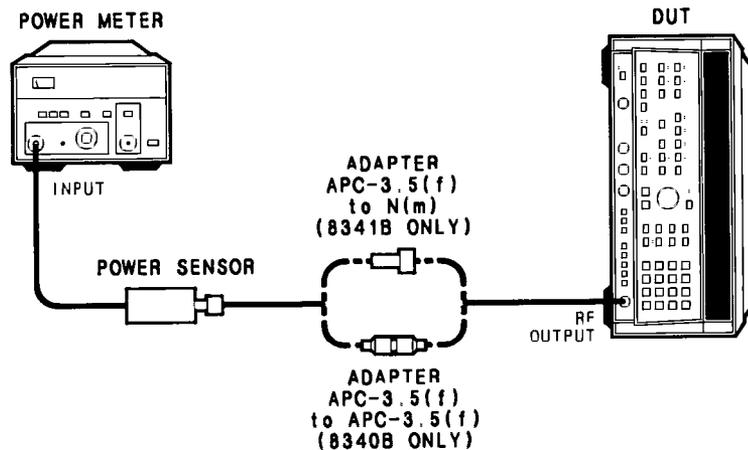

Figure 5-47. ALC Adjustment Test Setup
15. Connect the equipment as shown in Figure 5-47. Calibrate and zero the power meter. Allow one hour warmup time. Connect the power sensor to the DUT's RF output. Press [INSTR PRESET] on the DUT. Press [CW] and enter [4] [.] [5] [GHz]. Press the [RF] key to turn the RF OFF and zero the power meter. To ensure that the power meter is properly zeroed, select "WATT" mode, and press ZERO until the power meter indicates  $\leq 0.02$  on the most sensitive range. Press [RF] to turn the RF ON. Press [PEAK] to turn peaking on. Press [SHIFT] [PWR SWP] to decouple the RF attenuator and ALC. Enter [0] [dBm]. If the display does not indicate ATTEN=0 dB, press STEP keys as necessary to select 0 dB attenuation.